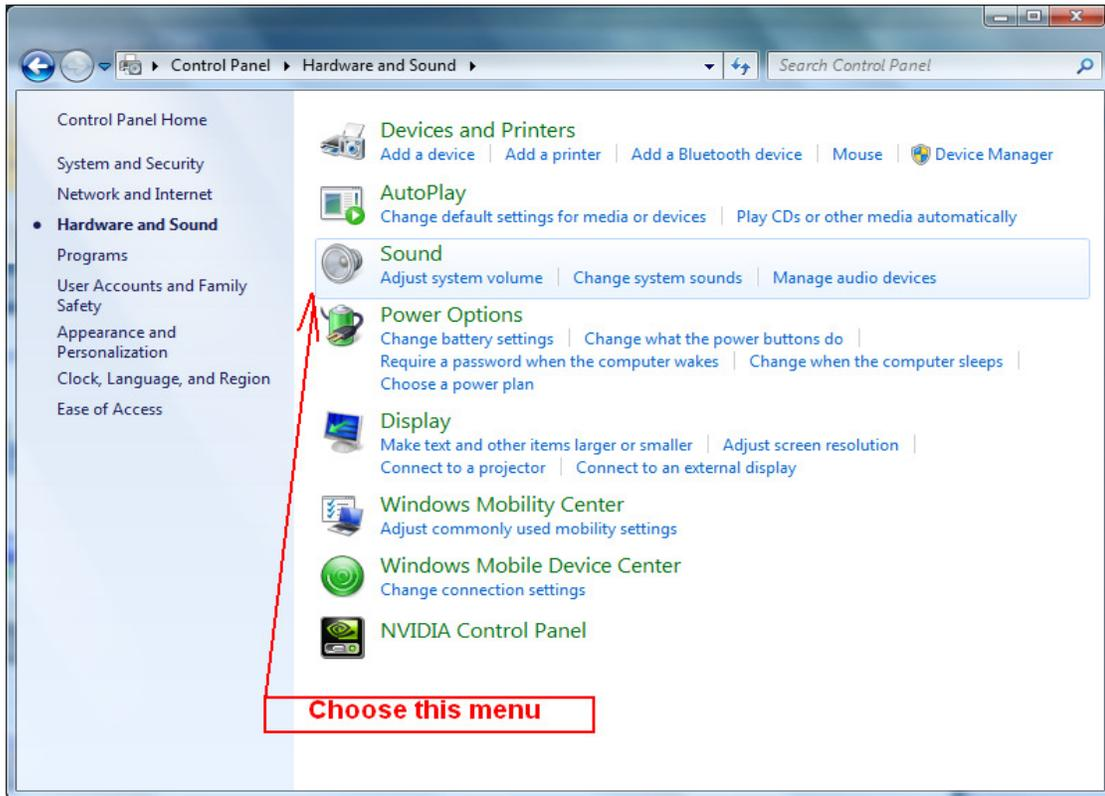

Figure 14 "Control Panel" -> "Hardware and Sound" window
- In "Hardware and Sound" choose menu "Sound" (see **Figure 14**.)